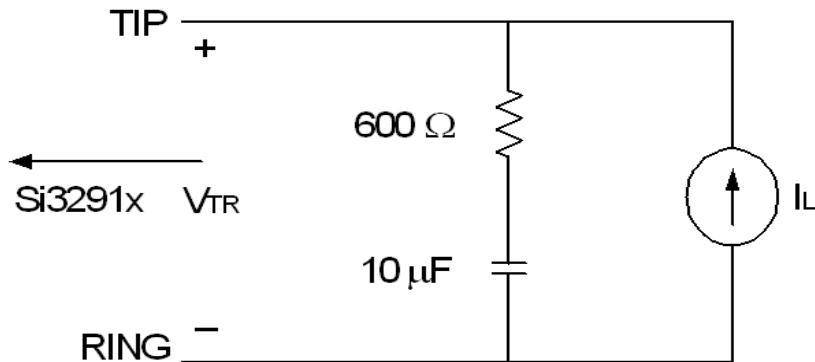

Figure 1. Test Circuit for Loop Characteristics
1. Measured at TIP and RING with 600 Ω termination at 1 kHz, as shown in Figure 1 on page 13.
1. Measured at TIP and RING with  $600\ \Omega$  termination at 1 kHz, as shown in Figure 1 on page 13.
For Figures 1–5, all filter plots apply to a sample rate of  $F_s = 8$  kHz.